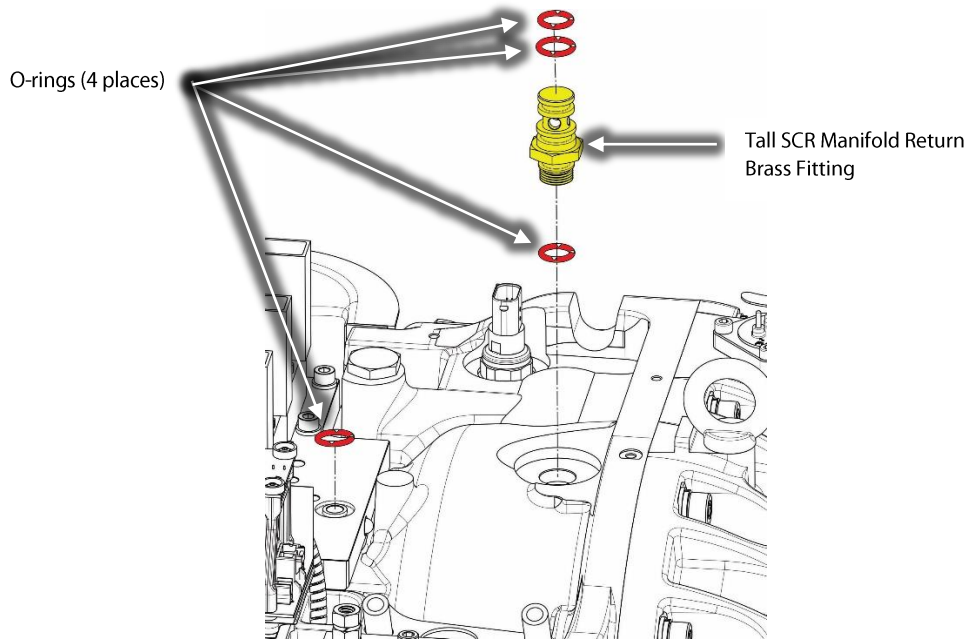

Figure 5 – Tall SCR Manifold Return Brass Fitting Removal for Option 1
4. Remove the SCR Manifold Return Brass Fitting. Refer to Figure 5 – Tall SCR Manifold Return Brass Fitting Removal for Option 1 for this and the following three steps.